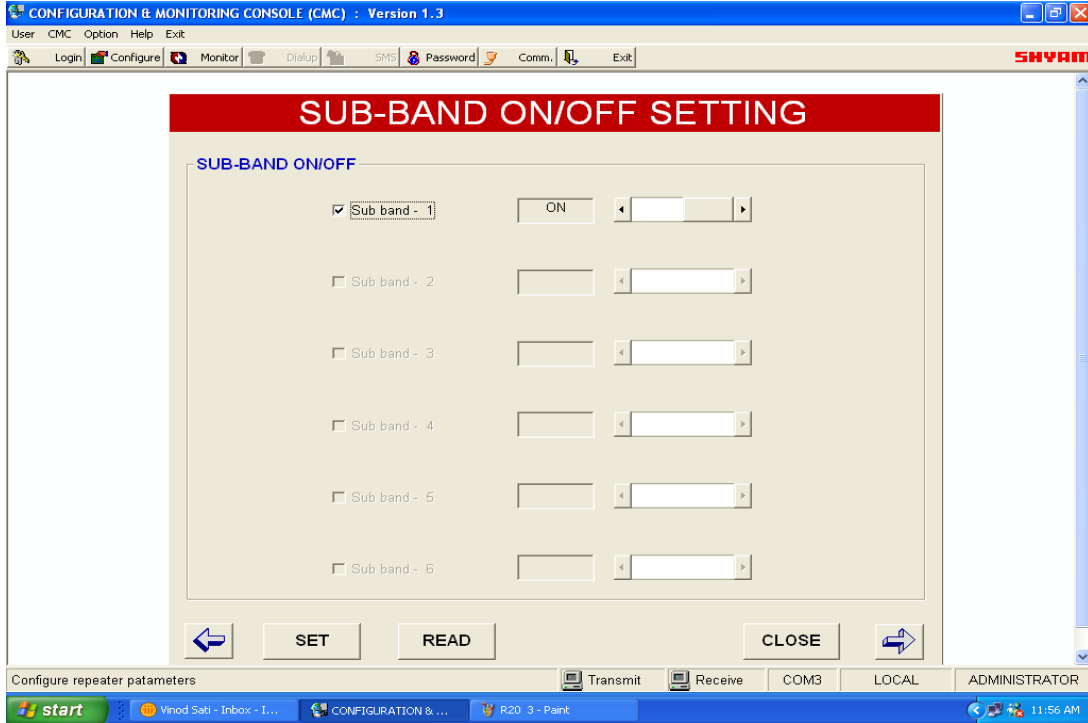

Figure 6: Sub Band ON/OFF settings
c) Sub Band ON/OFF Setting (Figure 6)